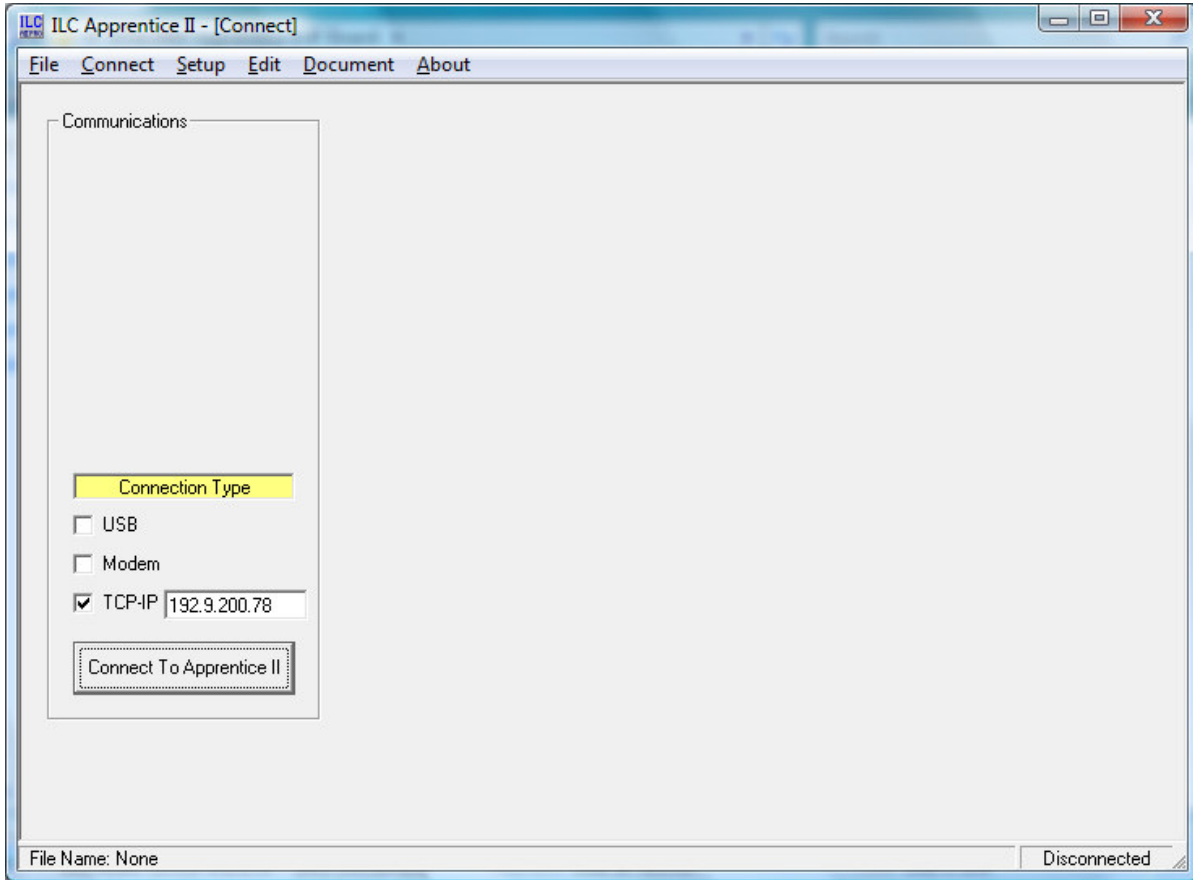

Figure 4
- To Connect to a Apprentice II panel using the Apprentice II Pro software open the program, select “TCP/IP”, enter the IP address, select the “Node Number”, and press the “Connect to Apprentice II” button as shown in Figure 4.